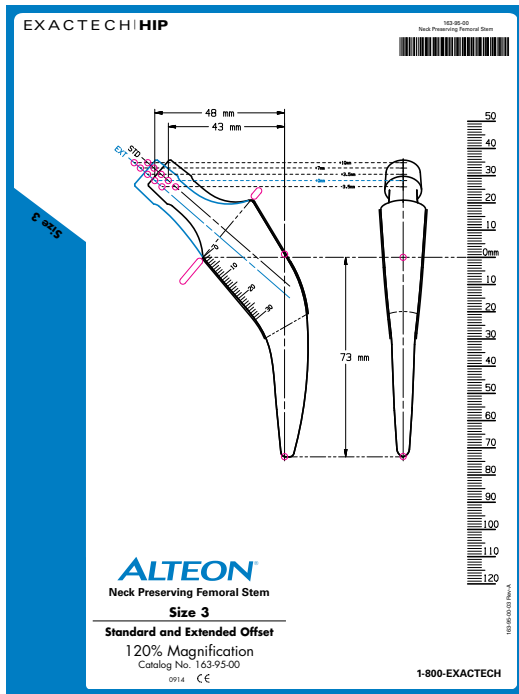

Figure 1
- Neck Preserving Femoral Stem Template set with 120 percent magnification rule (*Figure 1*)